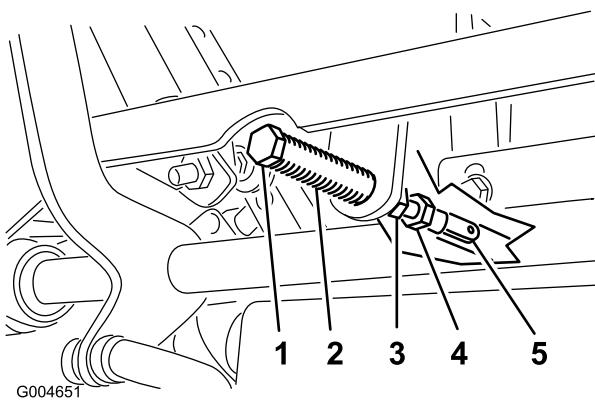

Figure 62
5. Pull the lever back until the clevis pin (on an arm above the pivot shaft) contacts the end of the slot (just beginning to put pressure on the spring) (Figure 62).
7. If adjustment is needed, loosen the nut and jam nut against the yoke (Figure 62).
8. Applying slight rearward pressure on the motion control lever, turn the head of the adjustment bolt in the appropriate direction until the control lever is centered in the neutral lock position (Figure 62).
9. Tighten the nut and jam nut (Figure 62).
9. Tighten the jam nuts at the ball joints (Figure 62).